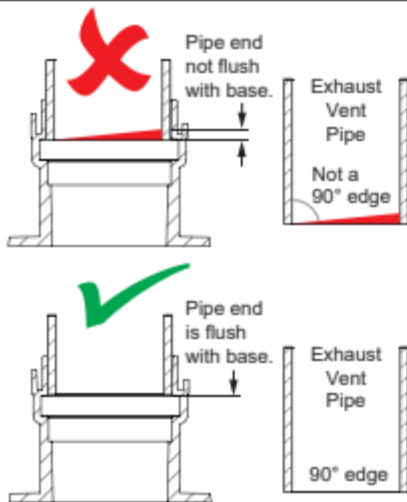

Figure 14 - Insert Straight Pipe
- 1 Insert 2 inch straight pipe into the exhaust/intake ports until fully seated (Figure 14).